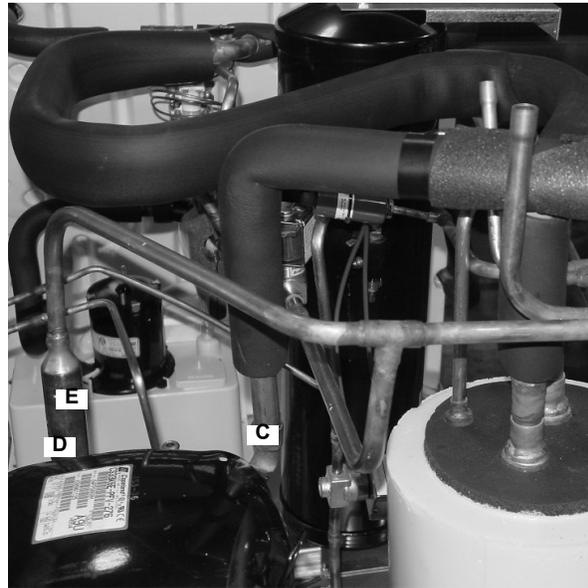

Figure 34.
39. Secure the insulation away from the joints in order to braze the compressor suction inlet (C) and the compressor discharge (D) lines (Figure 34).